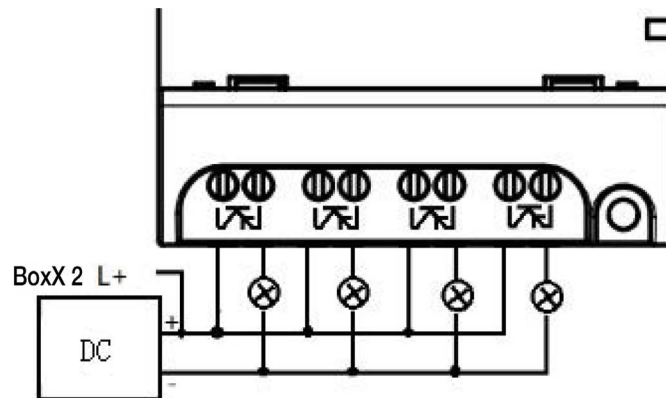

Figure 2.11 Transistor Output (GD type)
2) Type GD connection is shown in Figure 2.11: